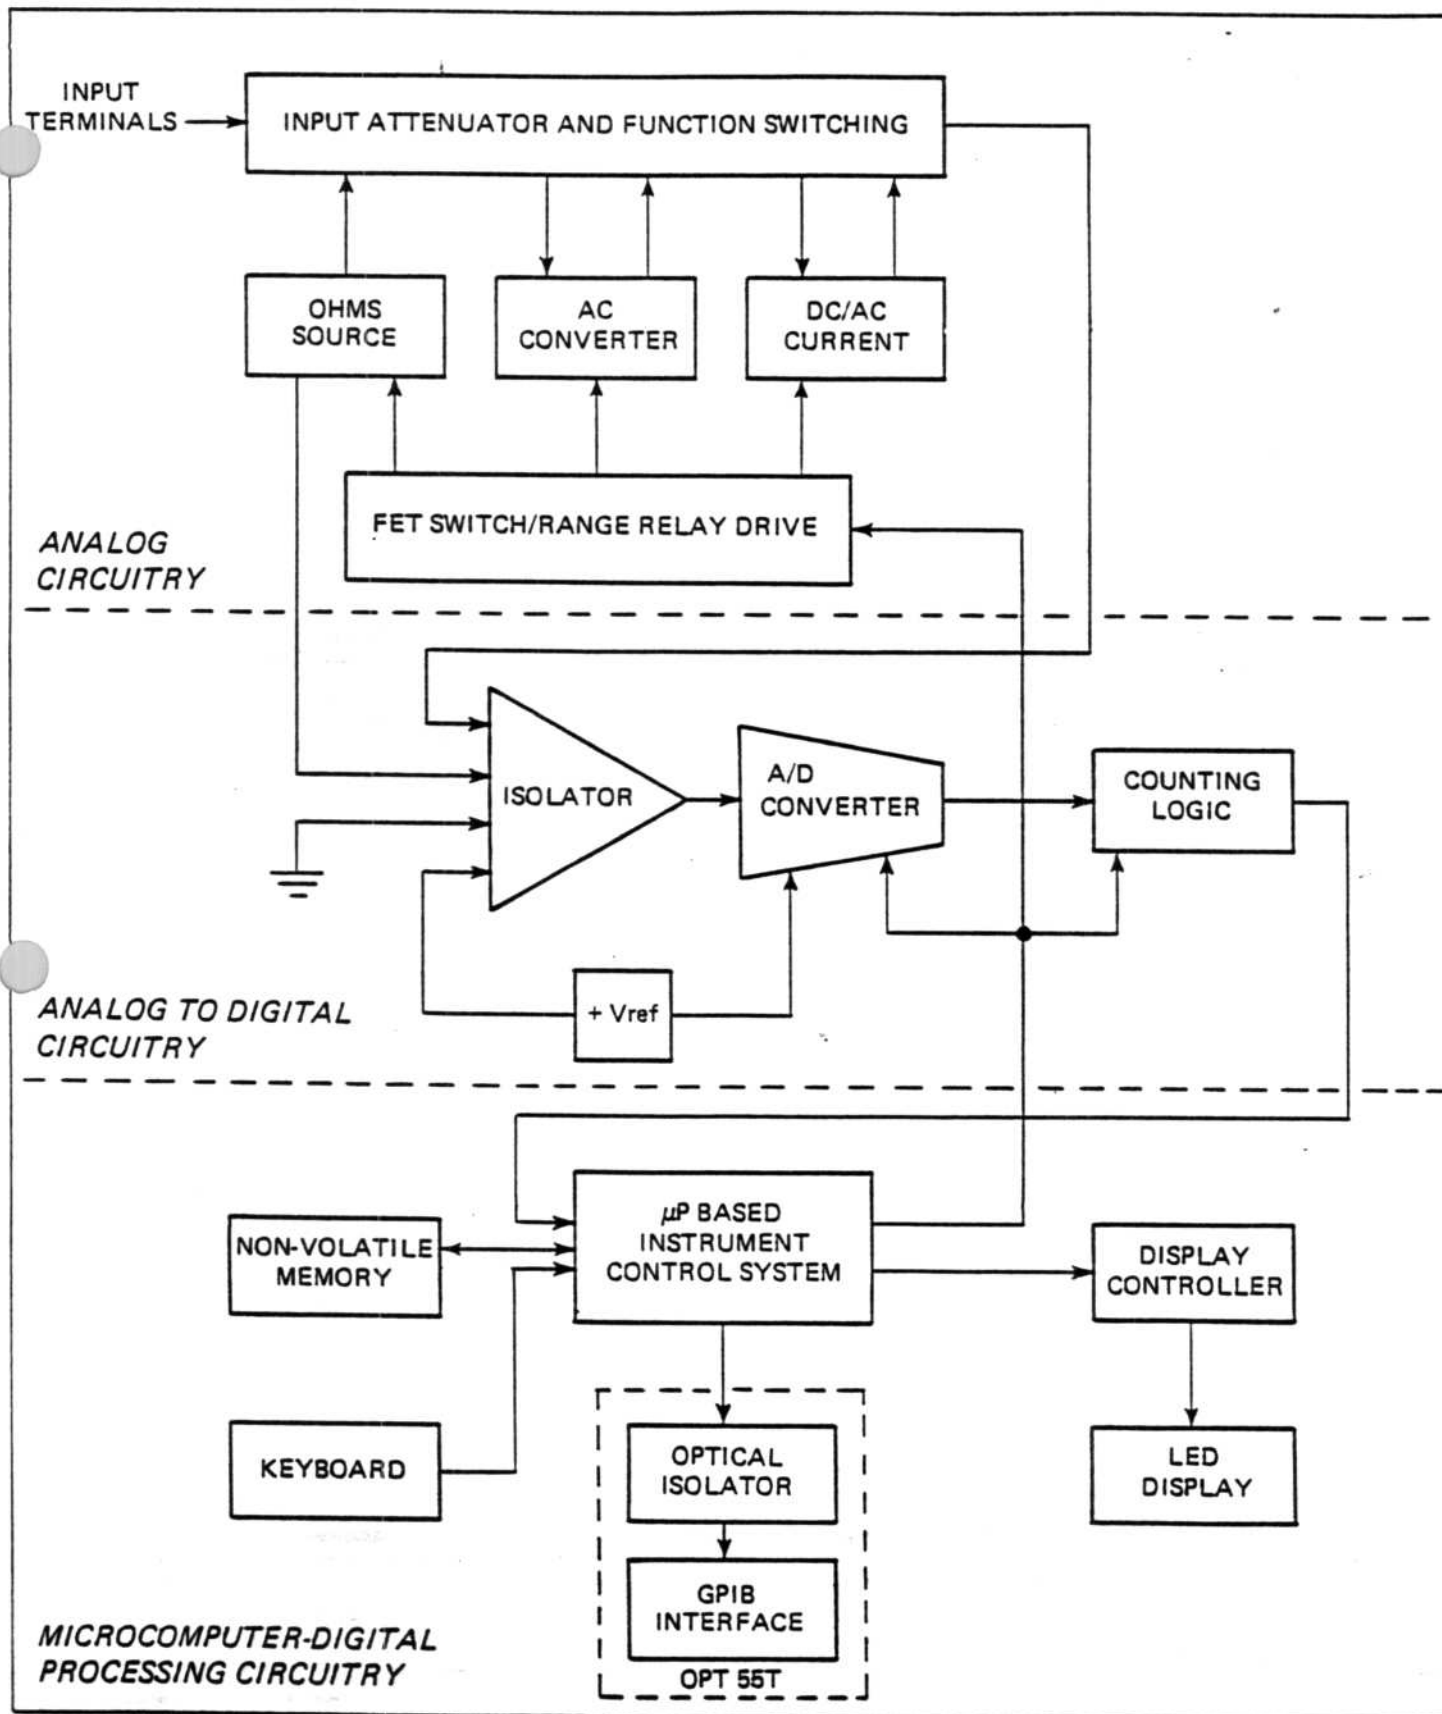

Figure 1.1 - 5001 Block Diagram
1.4.3.1 The 5001 block diagram is shown in Figure 1.1. The three major sections that condition the measurement signal through the 5001 are described in the next three paragraphs.